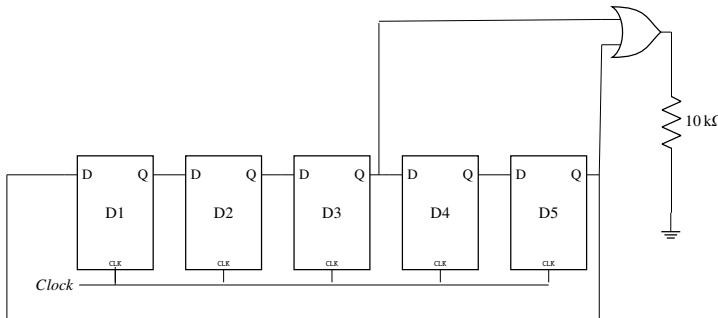

Fig. 5.26
26. Assume that all the digital gates in the circuit shown in Fig. 5.26 are ideal, the resistor $R=10k\Omega$ and the supply voltages is 5V. The D flip-flops D_1, D_2, D_3, D_4 and D_5 are initialized with logic values 0, 1, 0, 1, and 0, respectively. The clock has a 30% duty cycle.